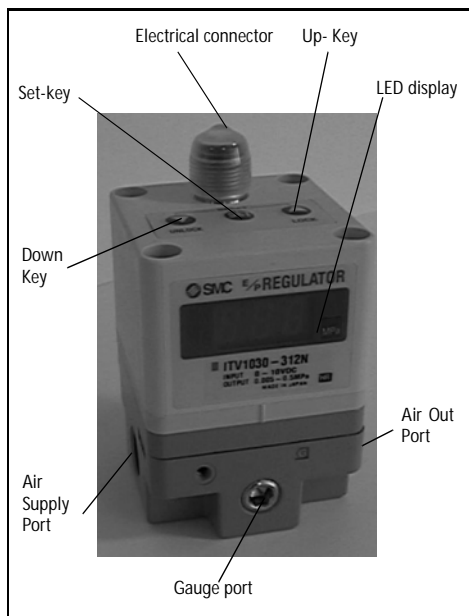

Fig 1
- To set minimum pressure (display shows F-1) use up/down keys (Fig 1) and press 'Set' key (Fig 1) to 'Lock' setting.
- To set maximum pressure (display shows F-2) use up/down keys (Fig 1) and press 'Set' key (Fig 1) to 'Lock' setting.
- To set switch output 1 (display shows P-1) use up/down keys (Fig 1) and press 'Set' key (Fig 1) to 'Lock' setting.
- To set switch output 2 (display shows P-2) use up/down keys (Fig 1), and press 'Set' key (Fig 1) to 'Lock' setting.
The keys are locked after connecting power, and can not be operated. 'Loc' is indicated on Display (Fig 1) when any keys are pushed.
- 1) Push 'Down' key (Fig 1) for longer than 2 seconds.
- 3) Push 'Set' key (Fig 1) to unlock.
Note: To cancel push 'Up' key (Fig 1).
- 1) Push 'Up' key (Fig 1) for longer than 2 seconds.
- 3) Push 'Set' key (Fig 1) to lock.
Note: To cancel push 'Down' key (Fig 1).
If an abnormality is detected by the ITV1000 the LED display (Fig 1) will show 'Er' followed by a code number. Isolate the power supply and ascertain and solve the problem. Re-instate power supply after correcting fault.
Push 'Up' and 'Down' keys (Fig 1) together for longer than 3 seconds. Display shows 'RES'. Release keys to reset minimum pressure, maximum pressure and switch outputs P1 & P2 to start condition.
Note: If the supply exceeds 30 mA, the sensor will output to the LED display (Fig 1) and show 'Er 5'